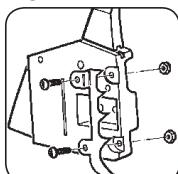

Fig. 3L
11. Install spike on Chain Brake cover as shown in (Fig. 3L).